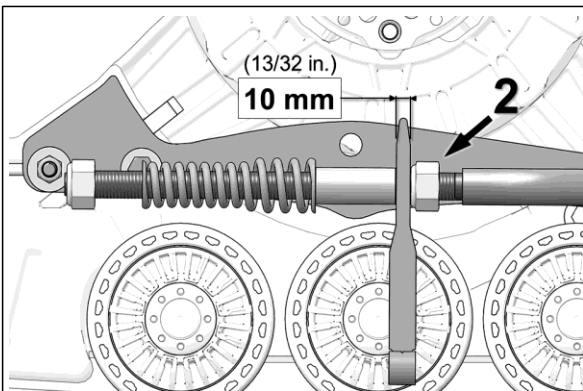

Figure 10
- Set adjustment nut (2) to obtain a distance of 10 mm between it and the stabilizing arm guide as shown on Figure 10.